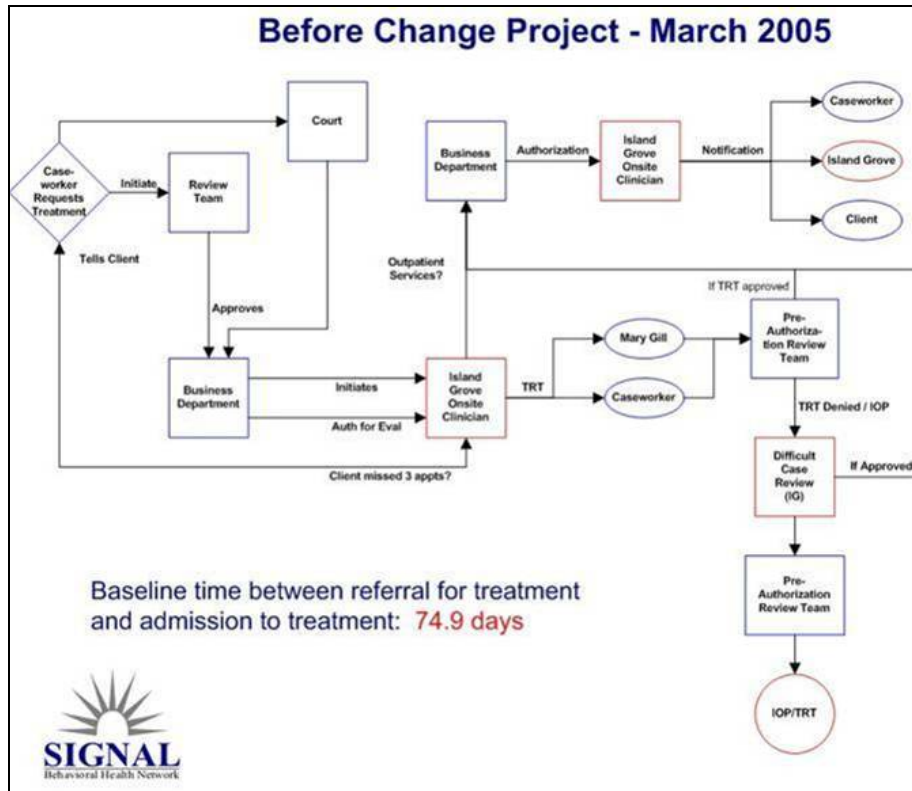

FIGURE 3a: "BEFORE" FLOWCHART, SIGNAL BEHAVIORAL HEALTH NETWORK
- **Create a “before” and “after” flowchart**, to show how the process has changed. This makes communication easier, and demonstrates visually how a change project benefits the current system. Signal Behavioral Health Network provided the examples in FIGURES 3a and 3b below.